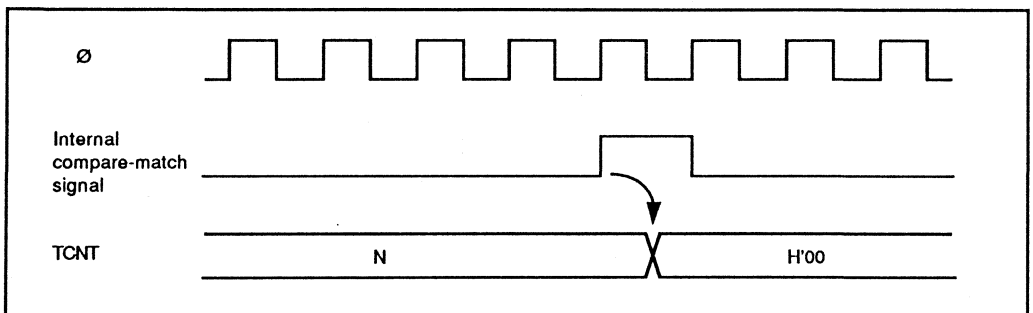

Figure 7-8. Timing of Compare-Match Clear
(4) **Timing of Compare-Match Clear:** Depending on the CCLR1 and CCLR0 bits in the TCR, the timer counter can be cleared when compare-match A or B occurs. Figure 7-8 shows the timing of this operation.